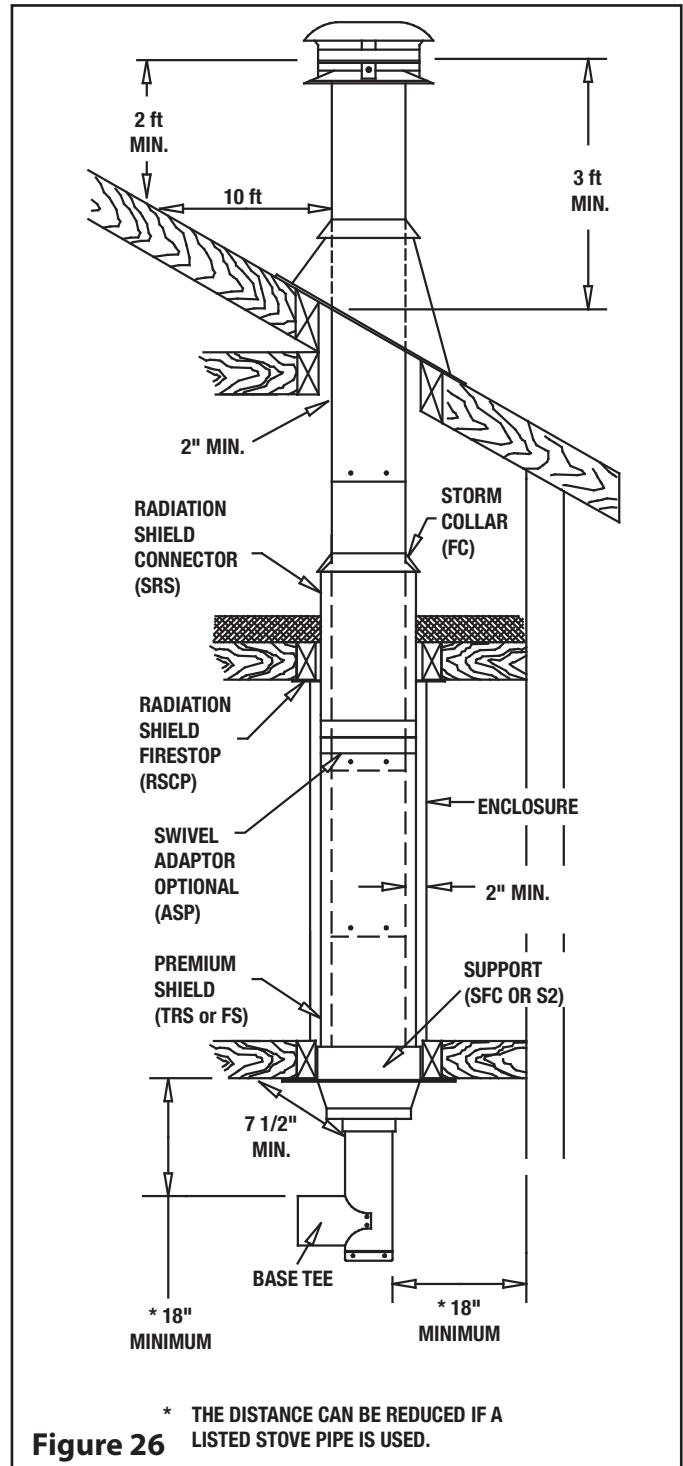

Figure 26
2. On wood or coal stove applications and in areas where the chimney is completely enclosed, it is required to install Premium shields (telescopic or flexible) around the chimney and a Radiation Shield Connector (SRS) at the ceiling level. (See Figure 26).